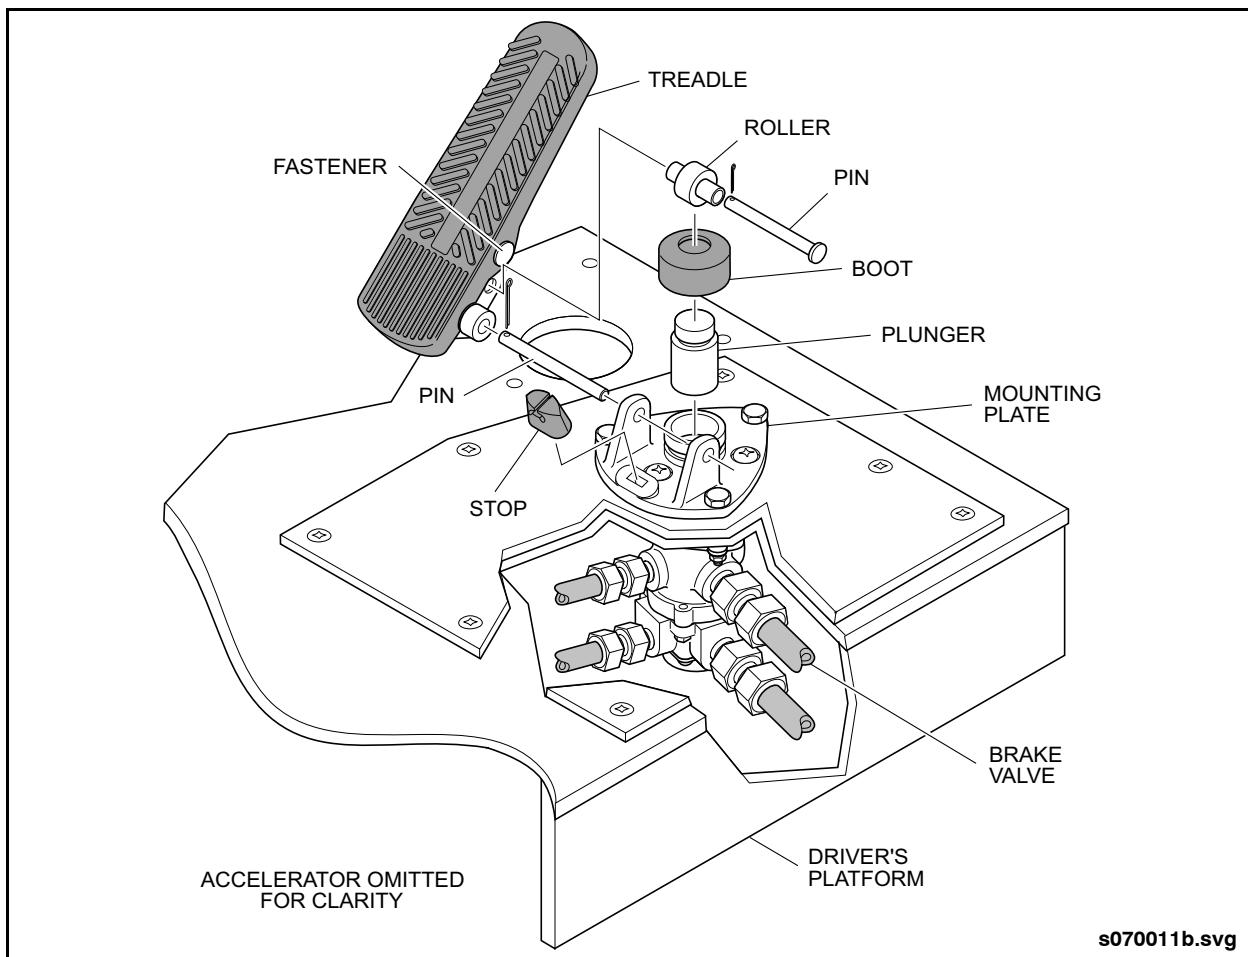

Fig. PM-35: Brake Valve Inspection
- Remove any accumulated contamination, such as dirt and gravel, from the heel of the treadle, the plunger, the plunger boot and the mounting plate. See "Fig. PM-35: Brake Valve Inspection" on page 73.